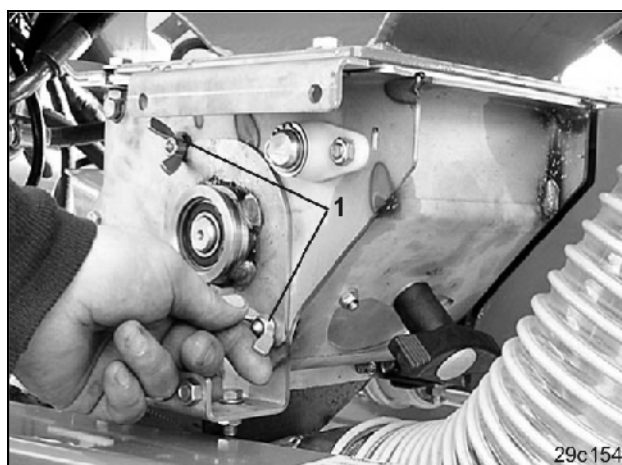

Fig. 73
- Just slacken the two thumb nuts (Fig. 73/1) but do not remove them.